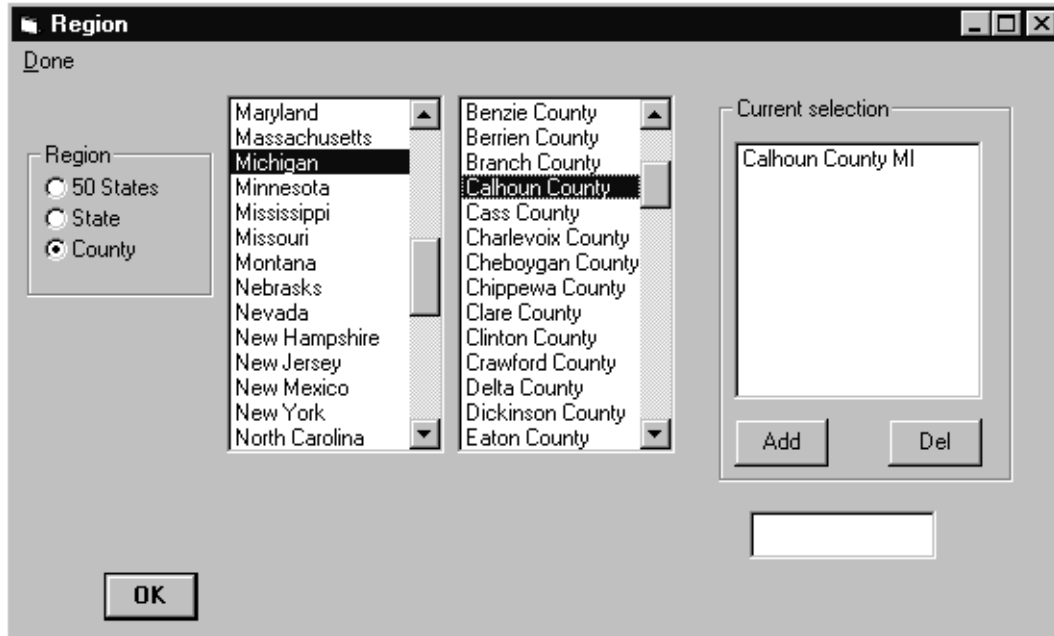

Figure 3-5: Region screen.
1. Use the left mouse button to click on **Scenario** (or press **<Alt-S>**) and then **Region** (or press **<R>**). The Region screen will appear (Figure 3-5).